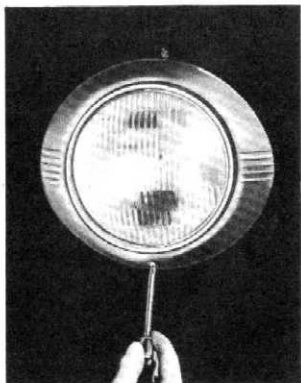

Fig. 37—Remove Headlamp Door Rim
1. Remove headlamp door rim. (See Fig. 37.)